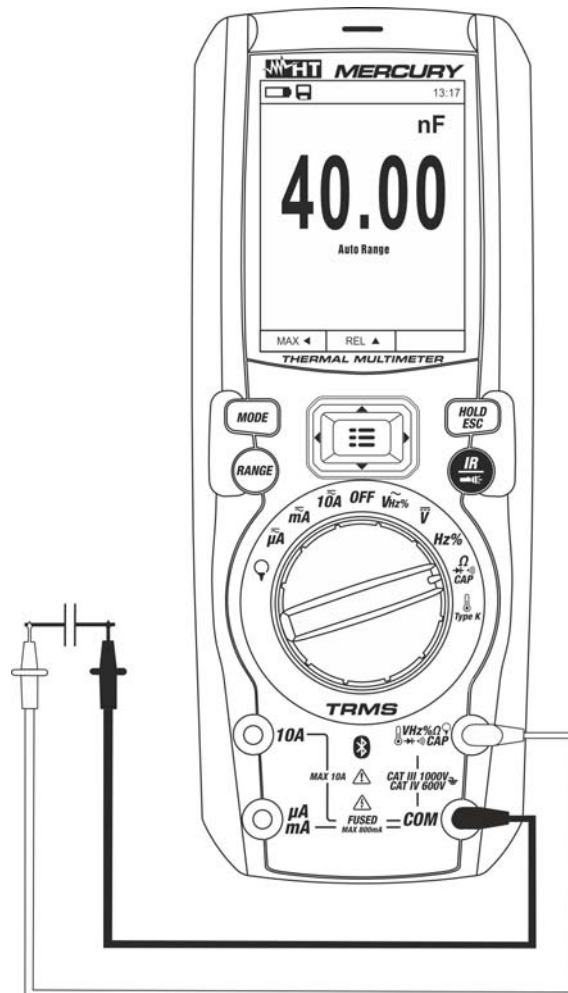

Fig. 26: Use of the instrument for Capacitance measurement
5. Position the leads at the ends of the capacitor to be tested, respecting, if necessary, the positive (red cable) and negative (black cable) polarity (see Fig. 26). The value is shown on the display. **According to capacitance, the instrument may take several seconds to display the correct final value.** The bargraph is not active in this function.